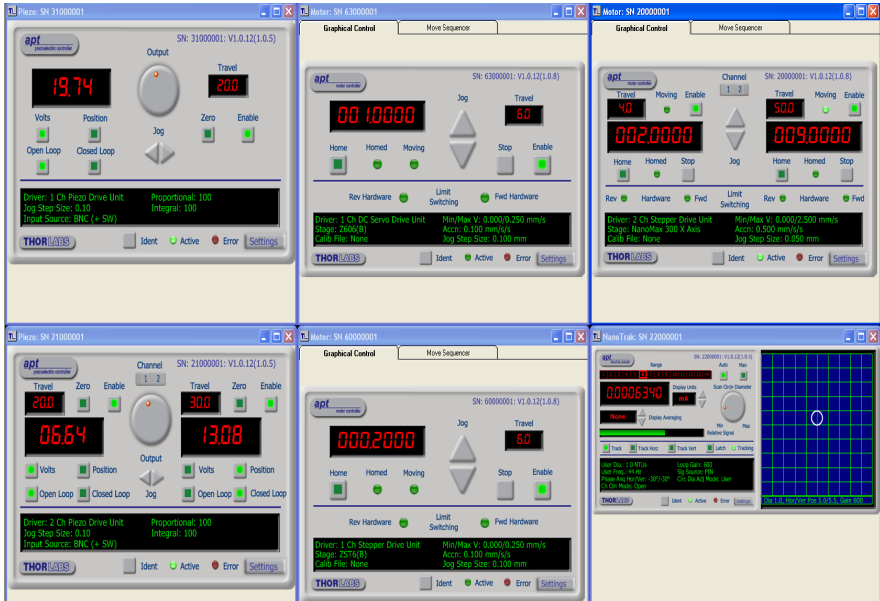

Fig. 5.1 Typical APT User Screen
- 1) Run the APT User program - Start/All Programs/Thorlabs/APT User/APT User. The APT server registers automatically the units connected on the USB bus and displays the associated GUI panels as shown in Fig. 5.1